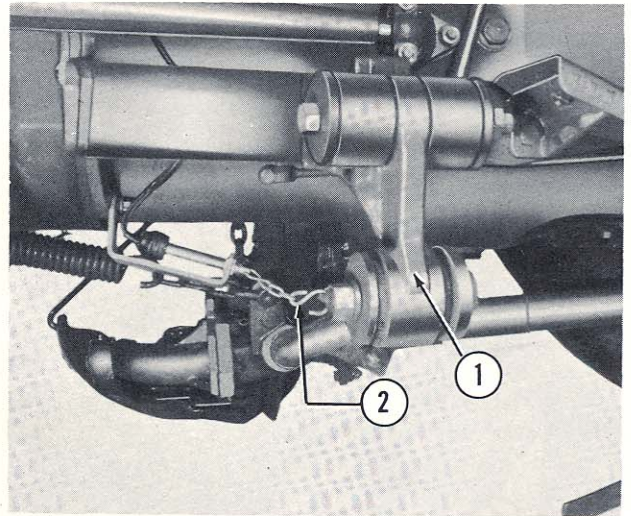

Figure 15
27. Attach left end of drag bar to drag bar arm (1), Figure 15, on left mounting frame as follows:
- c. After drag bar is attached to frame arm, hook safety switch chain to lug welded to drag bar. See (2), Figure 15.